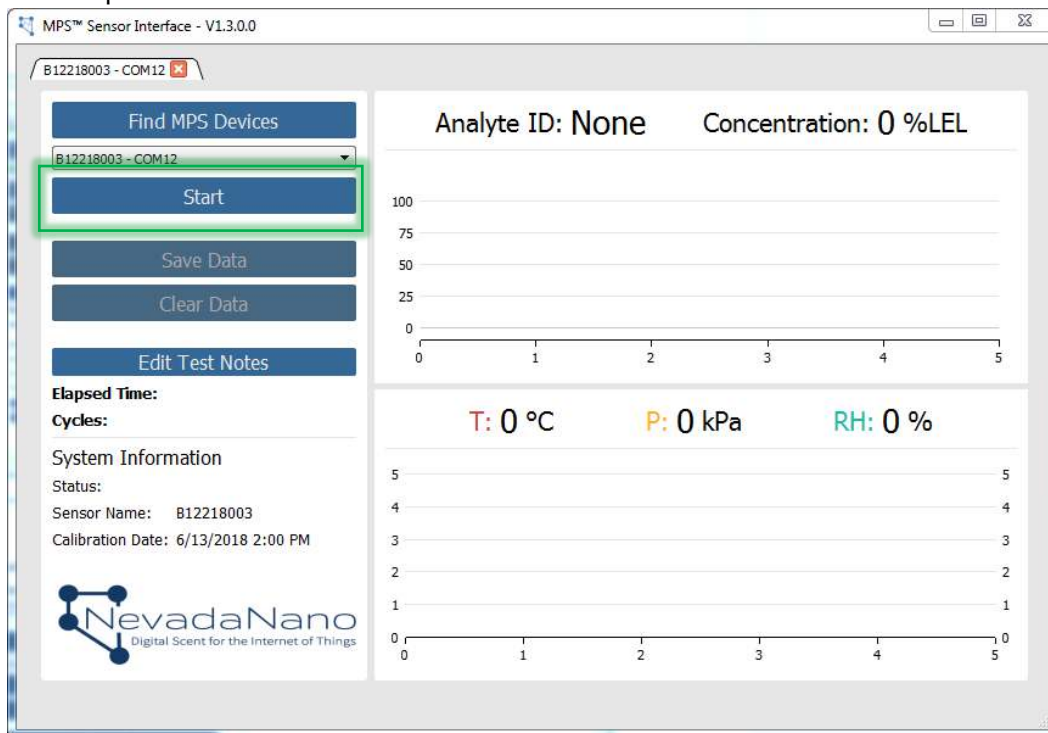

Figure 6 – MPS™ Flammables unit ready for testing. Sensor name is populated and start button is enabled.
1. After performing system setup (1.3), the start button will now be enabled (highlighted in green in Fig. 6). Start the flow of zero-air baseline gas over the MPS and wait ~1 minute before proceeding for baseline gas to replace ambient air. Click Start to begin the initial baseline acquisition.